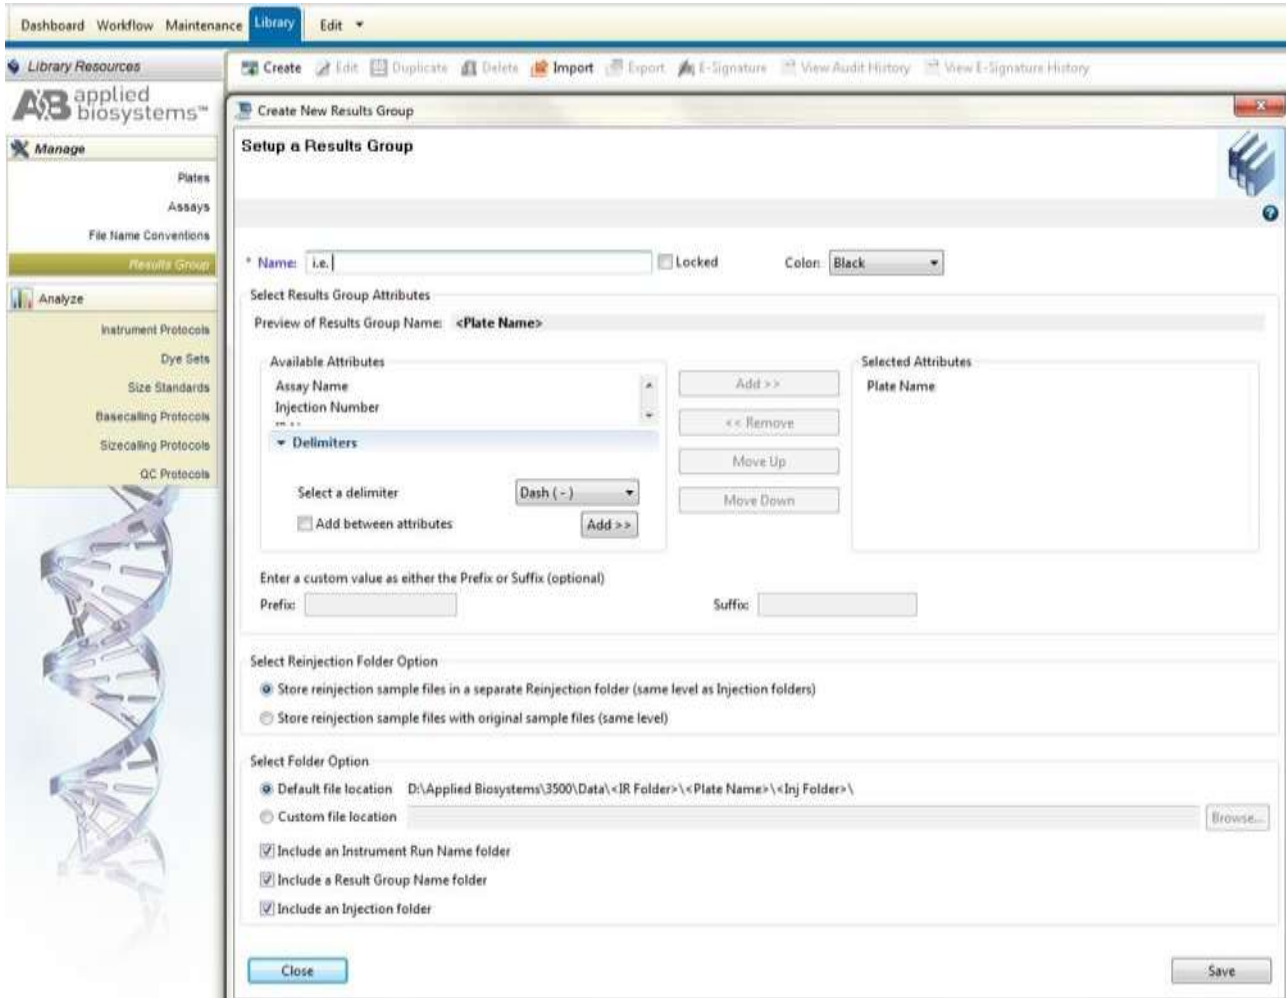

Figure 9. Screenshot for the “Create New Result Group” window on Applied Biosystems 3500 Data Collection software
- c) Select “Create” (Figure 9)